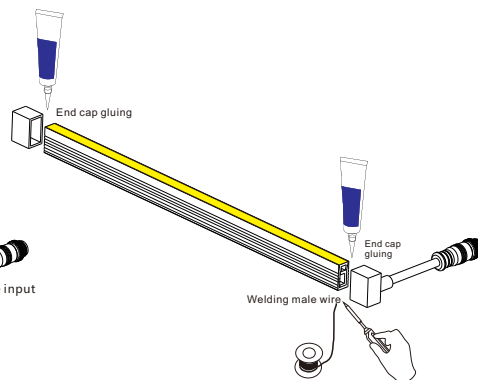

Figure 2
2. If there is no welding cable at the head and tail ends after cutting, first thread the male wire through the end cap, then weld it to the head end of the LED neon flex, and then apply glue for waterproof treatment (Fig. 2);